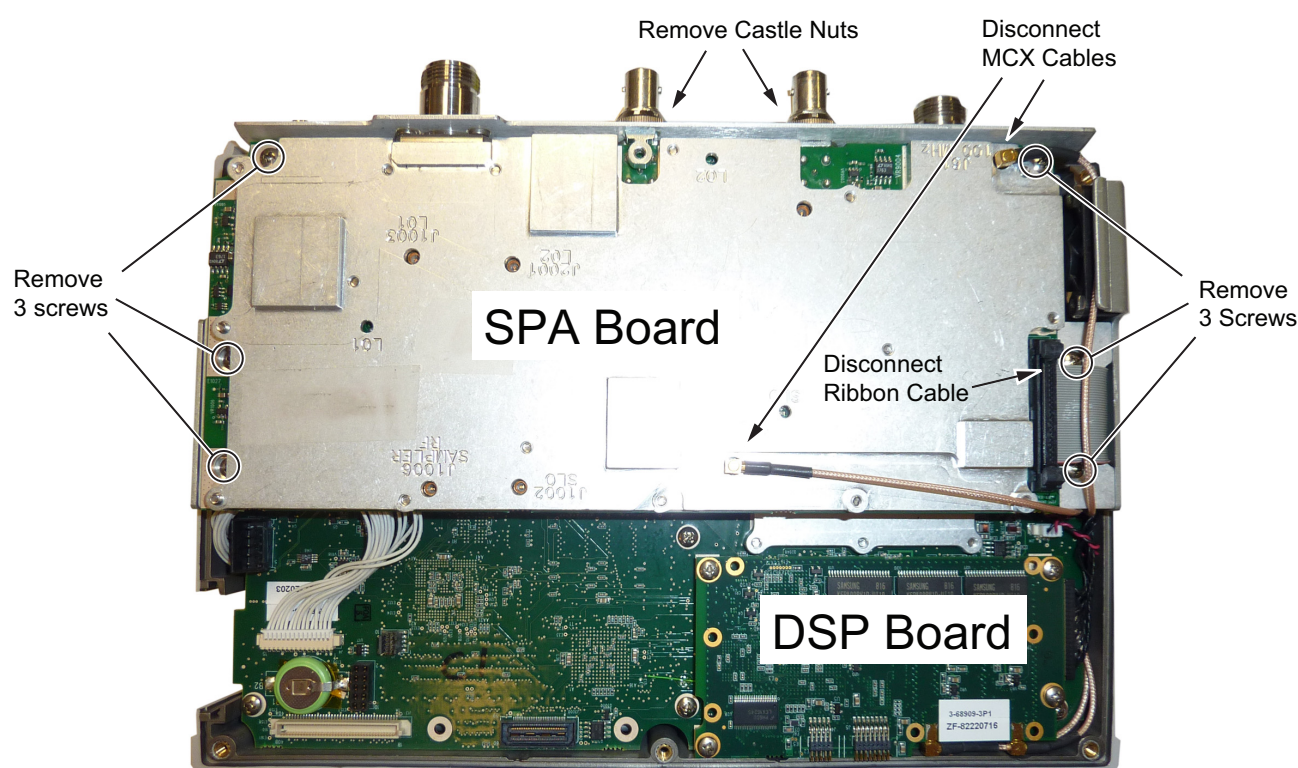

Figure 7-5. Removing the SPA Assembly
3. Remove the castle nuts from the External Reference connector and the External Trigger connector (Figure 7-5).
The MCX cable attached to SPA connector J61 (100 MHz) is shown passing above the SPA PCB ribbon cable. It must be routed under the ribbon cable, not as shown in Figure 7-5.